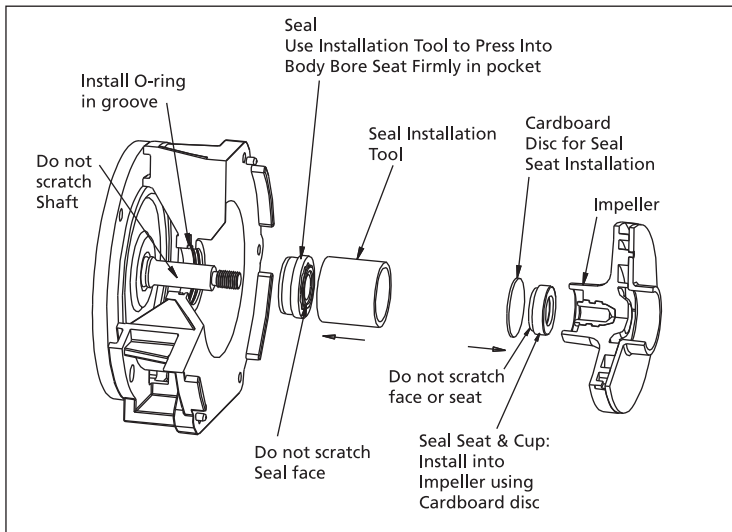

Figure 3 – Seal Installation
- d. The ceramic seat is located on the back side of the impeller (part of Ref. No. 5). Pry the seat out by using a screwdriver in the inside hole (See Figure 3). Be careful not to damage or scratch the inside surfaces of the bore holding the seat. Replace the impeller if such damage occurs as such scratches can cause leakage.
- c. Wet the rubber portion of the new seal seat (part of Ref. No. 5) with a light coating of soapy water. While wearing clean gloves or using a clean light rag, press seal seat squarely into impeller recess. Use the cardboard washer (usually supplied with new seal) to place over the polished ceramic surface and use a piece of pipe or dowel rod to press in firmly but gently (See Figure 3). Avoid scratching the ceramic face, usually white.
- f. While preventing the shaft from turning, screw impeller (Ref. No. 4) onto shaft and tighten (See figure 3).